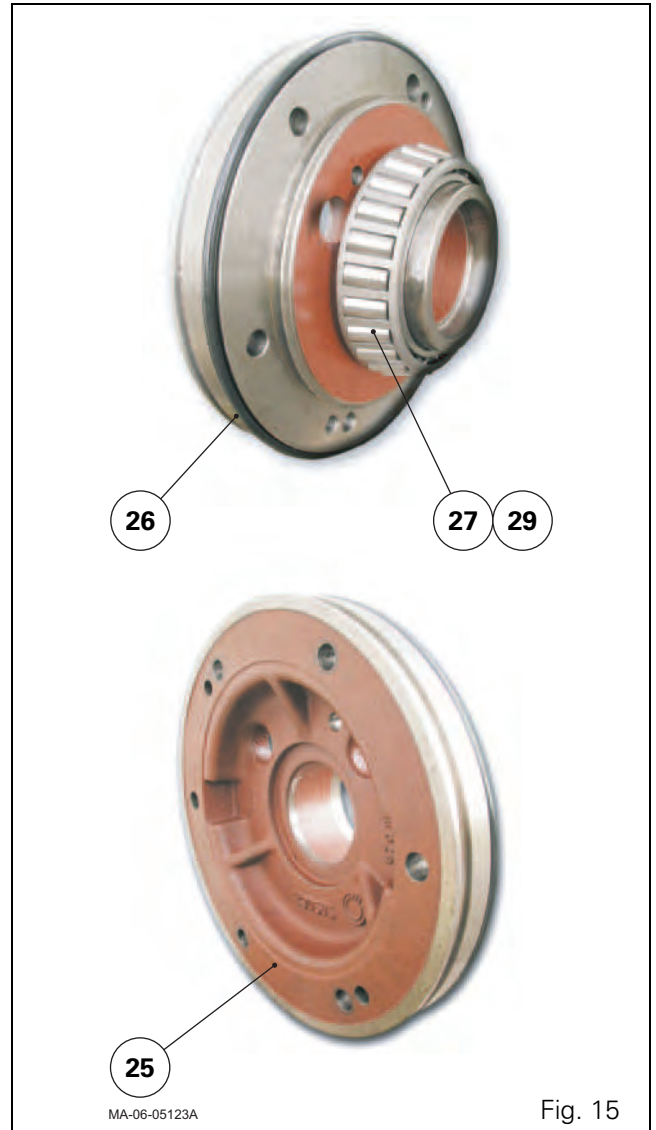

Fig. 15
45. Check for the following on the support (Fig. 15):
- the new O'ring (26);
- the shim(s) (29);
- the bearing cone (27). The bearing cone (27) is force-fitted onto the right-hand support (25).